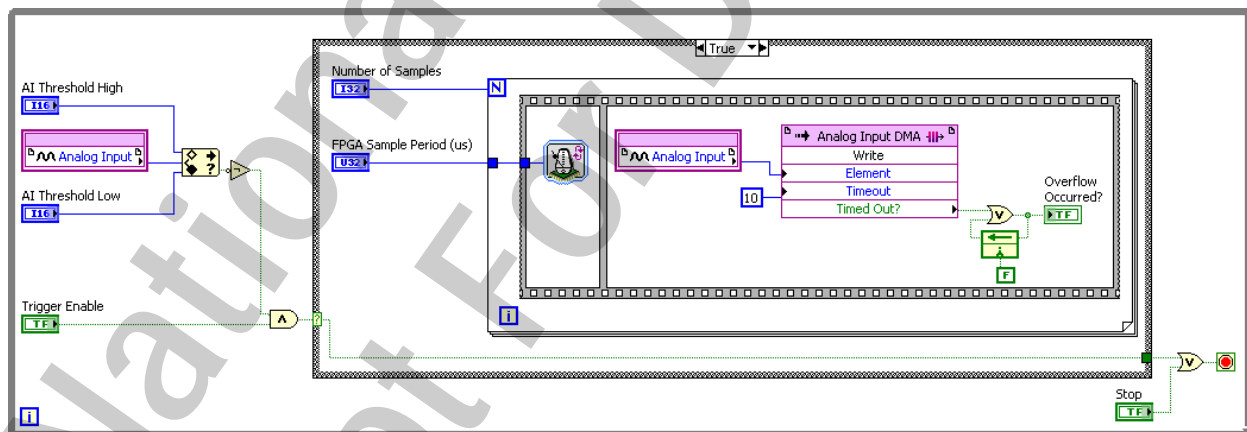

Figure 9-4. Custom Trigger AI.vi Block Diagram (True Case)
5. Build the Custom Trigger AI VI, as shown in Figure 9-4. This VI waits for the trigger to be enabled and for the value of Analog Input to exceed the high or low user-defined threshold values. When these conditions are met, a user-defined number of points is acquired and written to Analog Input DMA. Use the following items to build the block diagram:
- ❑ Wire the diagram as shown in Figure 9-4.